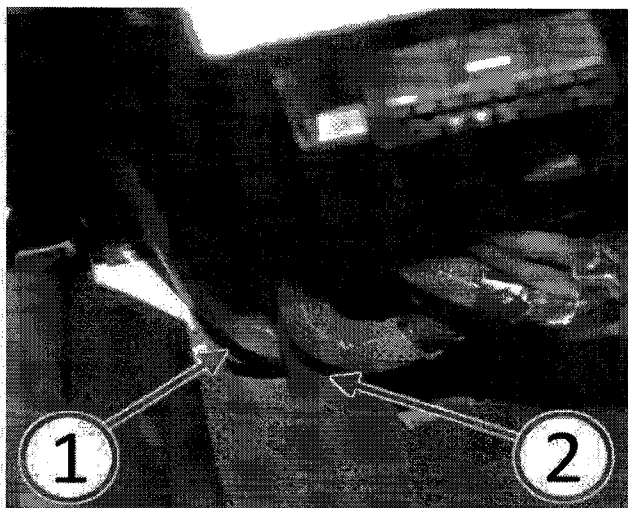

Fig. 4 Route Hood Release Cable Behind Harness
4. Route the hood latch release cable (1) behind the wire harness (2) as shown in (Fig. 4).